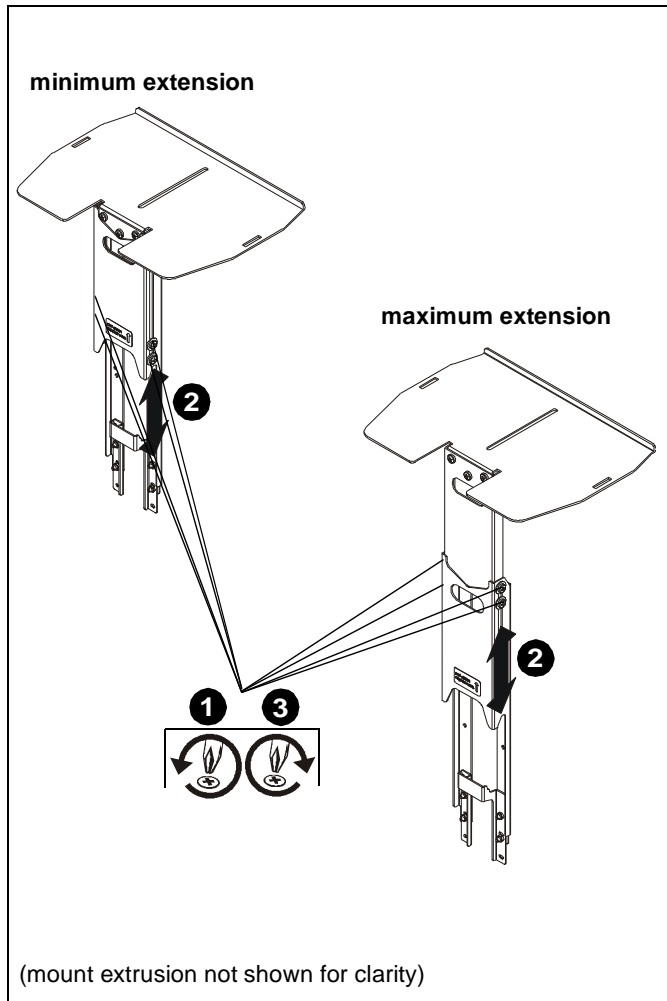

Figure 19
1. Loosen two screws on each side of upright. (See Figure 19)